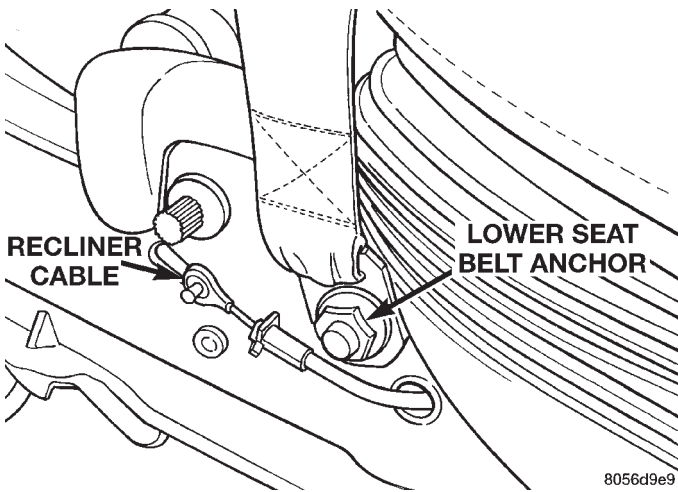

Fig. 5 Lower Seat Belt Anchor And Recliner Cable
- (6) Remove nut holding lower seat belt anchor to seat frame (Fig. 5).
- (7) Remove nut and washer holding seat belt buckle to seat frame.
- (8) Separate seat belt buckle from seat frame.
- (9) Remove recliner cable eyelet clip (Fig. 5).
- (10) Remove recliner cable from arm on seat adjuster and feed cable back through hole in seat adjuster.
- (2) Position seat back to seat frame.
- (3) Install bolt holding recliner lead screw to seat frame. Torque to 45.3 N·M (33.3 ft. lbs.).
- (4) Install pivot bolts holding seat back to seat frame. Torque to 45.3 N·M (33.3 ft. lbs.).
- (5) Attach easy-entry rod to seat back, passenger side only.
- (6) Install easy-entry washer and E-clip, passenger side only.
- (7) Install seat cushion.
- (8) Feed recliner cable through hole in seat adjuster and engage cable eyelet to arm on seat adjuster.
- (9) Install new recliner cable eyelet clip to arm on seat frame (Fig. 5).
- (10) Position seat belt buckle washer to bolt on side of seat adjuster.
- (11) Position seat belt buckle to bolt on side of seat adjuster and install nut.
- (12) Install new nut to hold seat belt buckle to seat adjuster.
- (13) Position lower seat belt anchor to bolt on seat adjuster.
- (14) Verify that seat belt is routed such that it will not be twisted when engaged to the seat belt buckle.
- (15) Install new nut holding lower seat belt anchor to seat frame (Fig. 5).